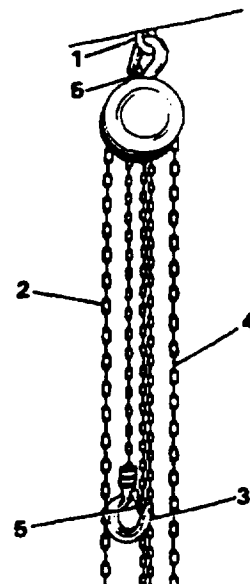

Figure 2-67. Loading Raw Water Pump
- (44) Disconnect chain hoist hook and take down chain hoist from eyebolt and rehook at front door as shown in Figure 2-67.